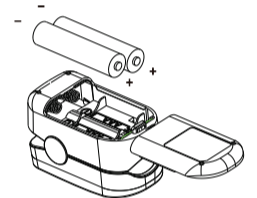

Figure 3. FP 910 Battery Installation
- Push the battery cover horizontally along the arrow shown as figure 3.